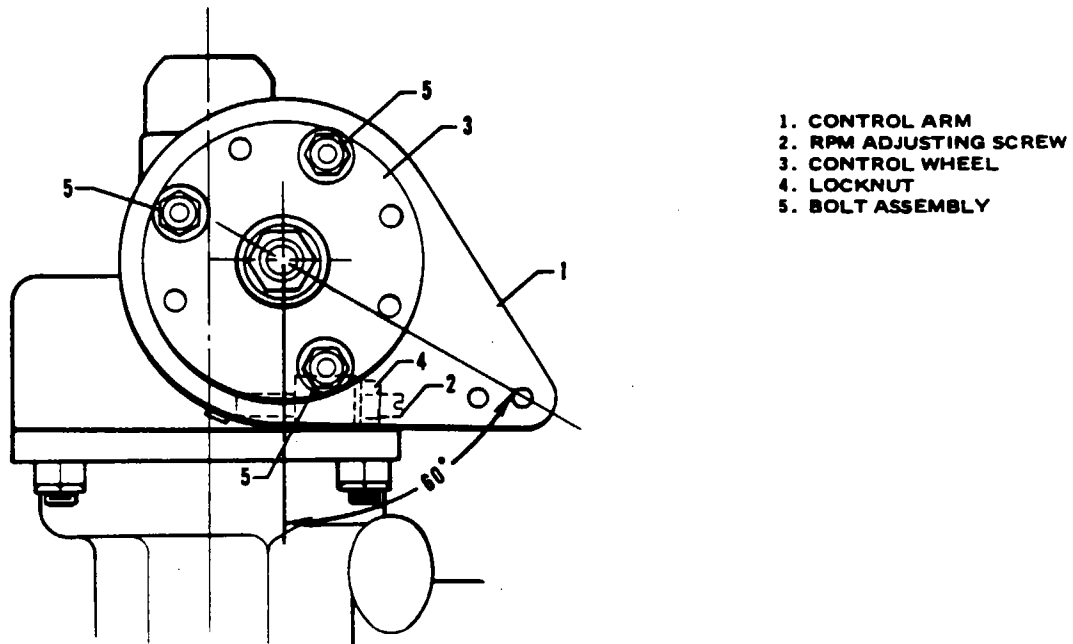

Figure 8-5. Propeller Governor
8-26. RIGGING AND ADJUSTMENT OF PROPELLER GOVERNOR. (Refer to Figure 8-5.)
5. Ascertain that the governor control arm (1) is adjusted to the proper angle on the control wheel (3) as shown in Figure 8-5.